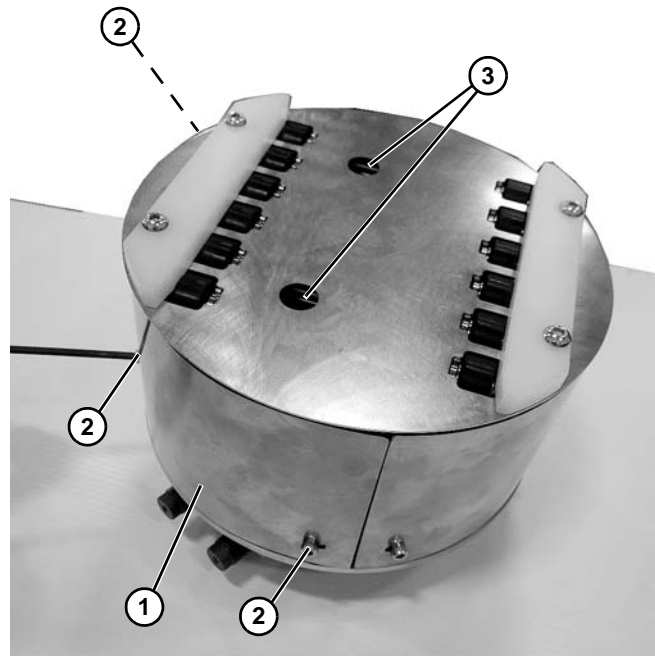

Figure 65
1. Remove side guard (Figure 65, item 1) by removing three screws (Figure 65, item 2) on side with the sensor holes (Figure 65, item 3).